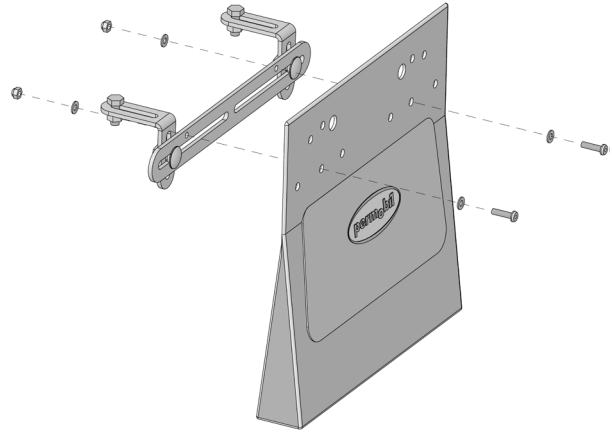

Fig. 10. Mounting of bag on bracket.
1. Mount the bag on the separately delivered bracket using the supplied screws, washers and nuts. See fig. 10.